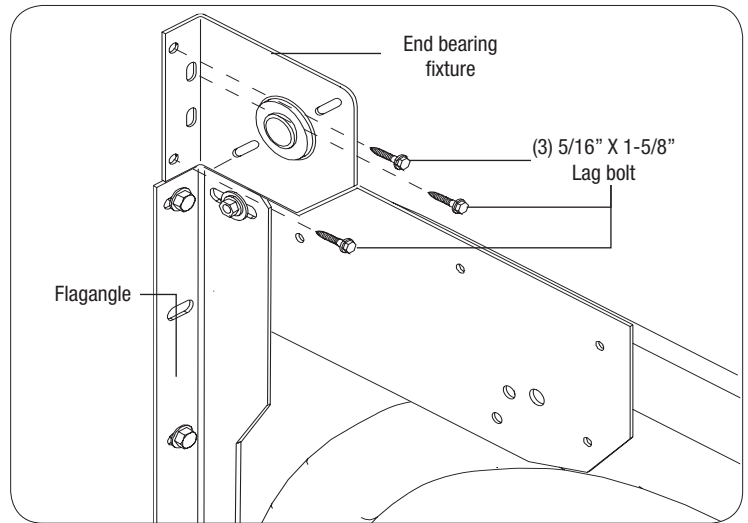

FIG. 6.1
Place the left and right end bearing fixtures above the flagangles. Attach the fixtures to the jamb using (3) 5/16" x 1-5/8" lag bolts, as shown in **FIG. 6.1**.